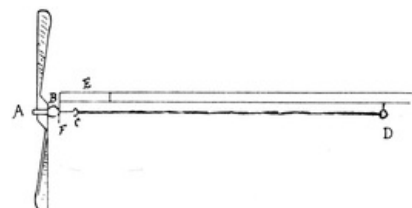

FIG. 486
**To fasten Propeller to Glider.** Cut a piece of tin to the pattern shown in Fig. 485, bend along the dotted line; make a hole at F for axle, B C, to go through. Bend portion E round the front end of the glider, keep it in its place by bending it with thread coated with glue; portion F with the hole is bent down at right angles as shown in Fig. 486. Now pass axle, A C, through hole F, bend end C into a hook. Put screw-eye D in the rod about one-third of length of rod from the other end (see Fig. 486). Fasten strands of elastic from hook C to D. It is best really to have a hook at D so that the elastic can be slipped over. The strands should be just loose enough to remain taut when unwound. When the propeller is in position the planes will probably have to be readjusted. The tin propeller can be attached in a similar way. These propellers will do for almost any simple design of aeroplanes.